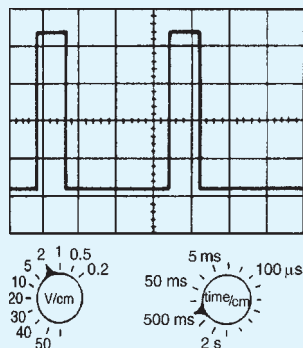

Figure 10.22
2. For the pulse waveform shown in Fig. 10.22, find (a) its frequency, (b) the magnitude of the pulse voltage.